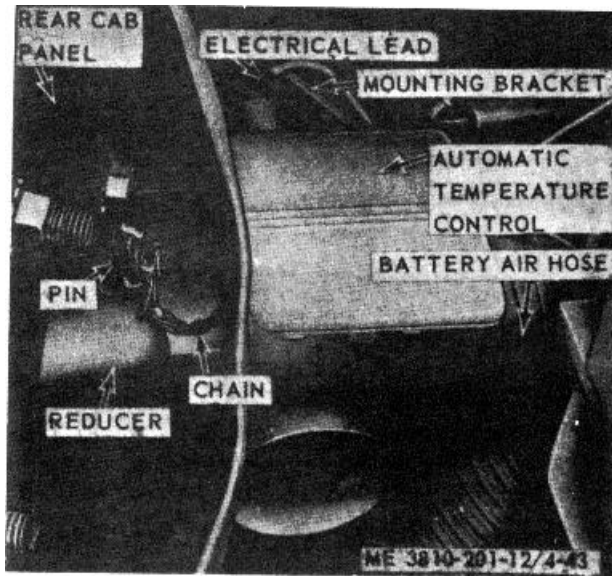

Figure 4-43. Battery heater automatic temperature control, removal and installation.
(1) Refer to figure 4-43, remove pin from reducer and let it hang by chain.
(2) Loosen two hose clamps and disconnect battery air hose, then disconnect electrical lead.